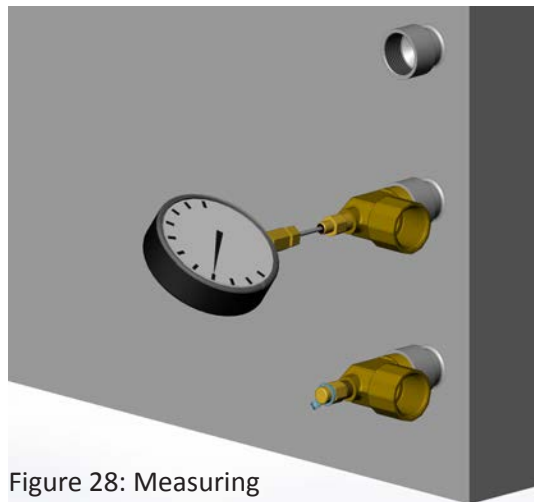

Figure 28: Measuring pressure drop
1. Measure the pressure drop across the heat pump’s heat exchanger via the P/T ports located at the water connections of the unit (Figure 28). Use a single large dial face pressure gauge to allow for more precise measurement.